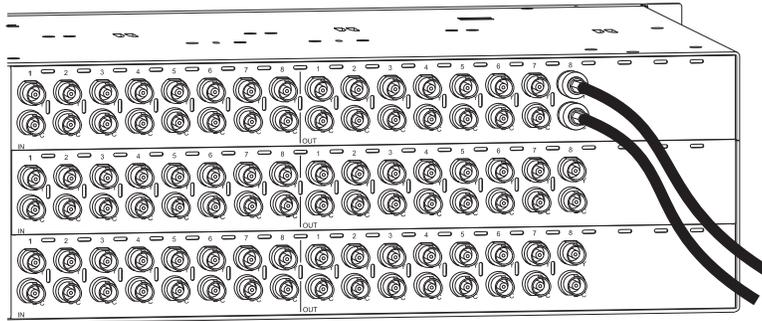

FIG. 26 Fasten the cables onto the “Y” and “C” connectors
1. Fasten the cable pairs onto the input or output BNC connectors (FIG. 26).